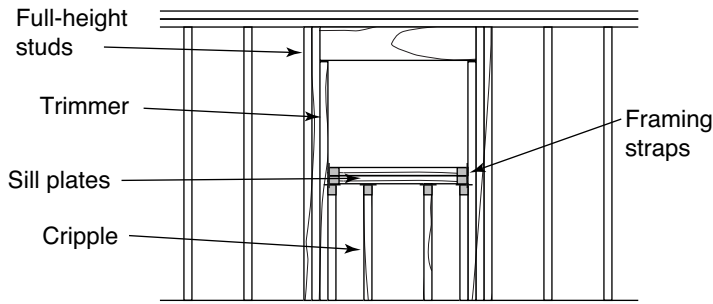

FIGURE 56
- ◆ Use framing anchors at all framing around window openings, and framing straps over lintels, to help transfer soil pressures. Increase the number of studs and sill plates for larger openings (see Figure 56).